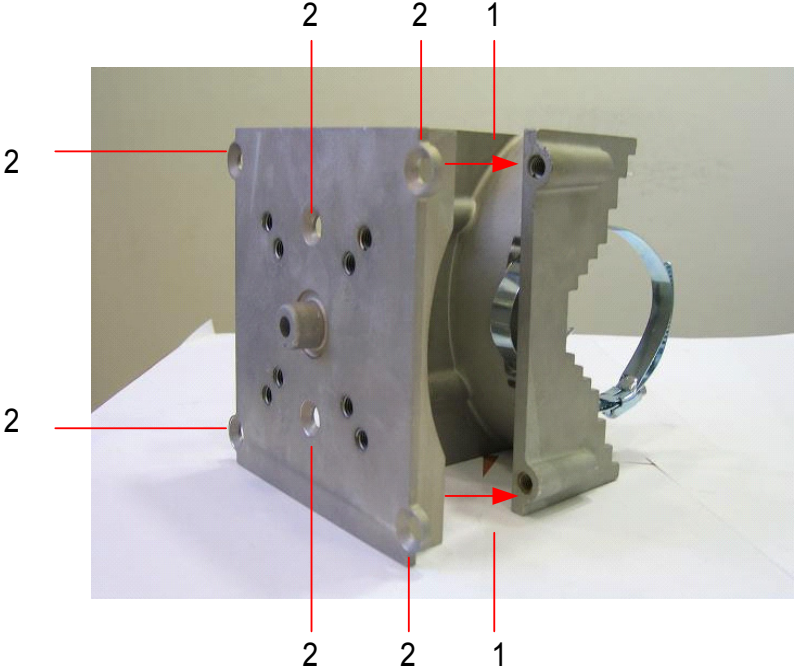

Figure 3.10. **Attaching the Back Plate to the Pole Bracket**
- Attach the back plate to the pole bracket as labeled #1 in Figure 3.10
5. Insert the six bolts into the holes in the back plate labeled #2 in Figure 3.10 and tighten.